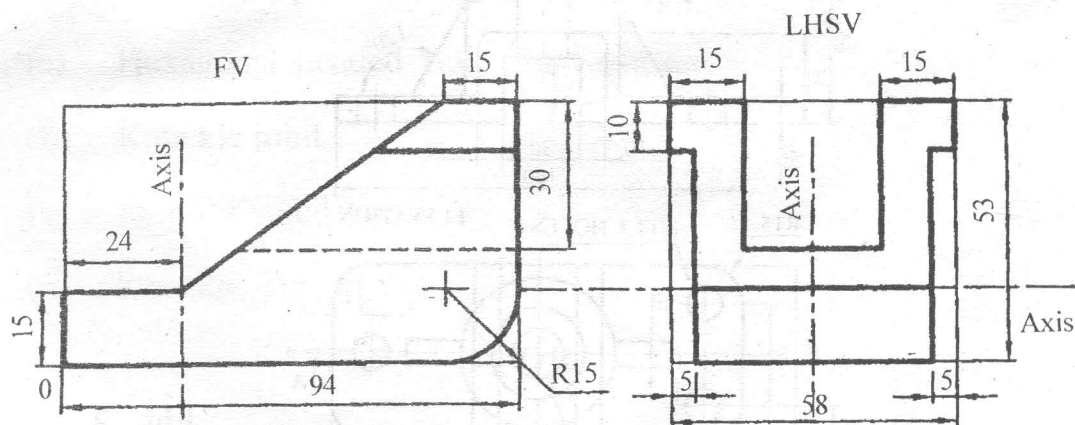

Fig. 7
Q.7) Figure 7 shows the FV and LHSV of an object draw its isometric view about 'O' and give all dimension. [16+4]